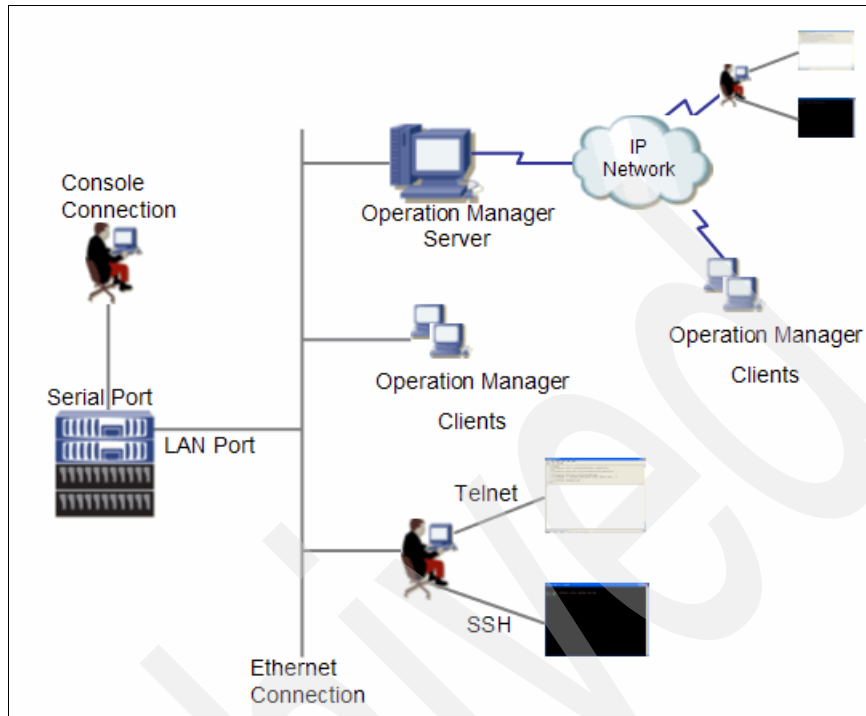

Figure 10-1 N series access options
In this chapter, we provide information about how to manage DVS data on N series. After we take you through the initial configuration, you can access the N series storage system in one of the three ways, as seen in Figure 10-1 on page 350:
3. When the authentication window is displayed, type your username and password, as shown in Figure 10-1 on page 350.